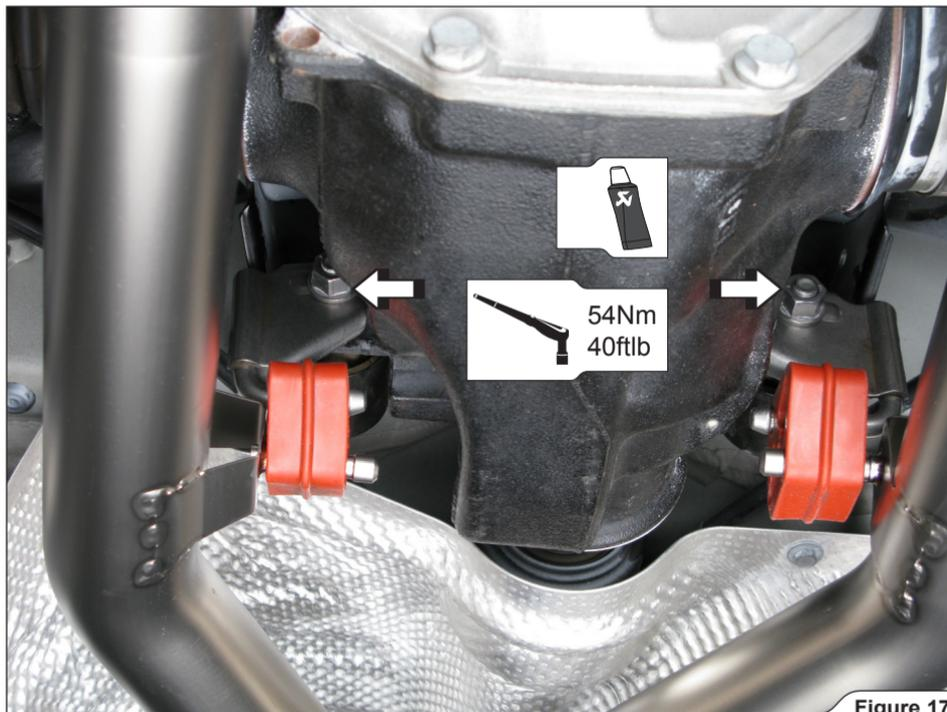

Figure 17
4. **For Evolution:** attach the assembled middle pipes with brackets onto the vehicle (**Figure 17**).